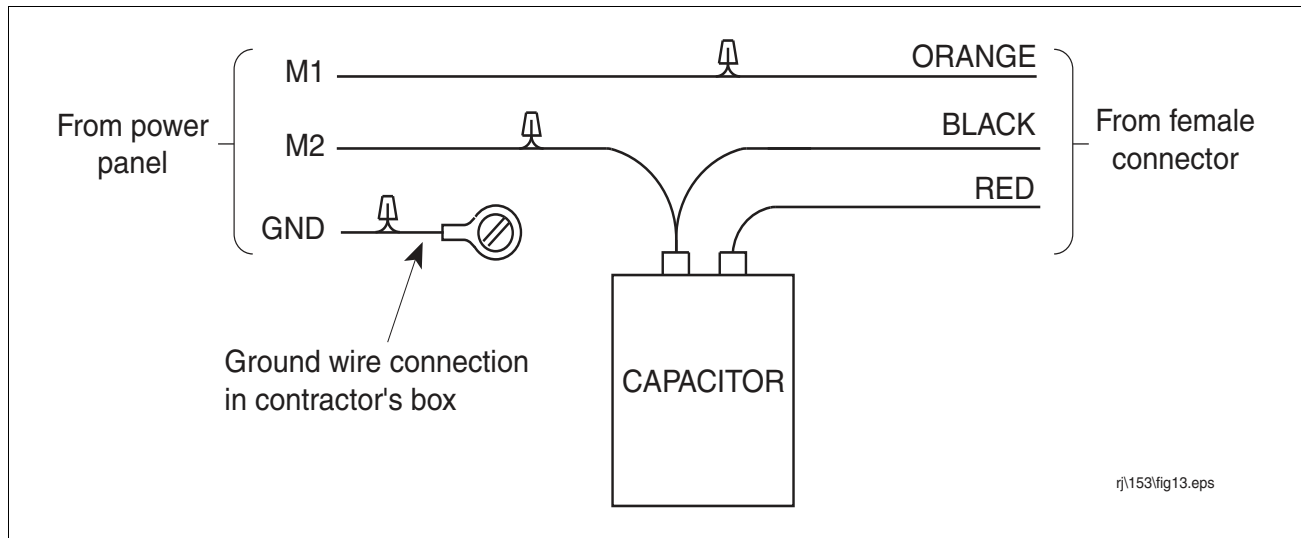

Figure 33. Wiring schematic
16. Using supplied wire nuts attach like colored pump pigtail wires to like colored electrical connector wires as shown in Figure 33.